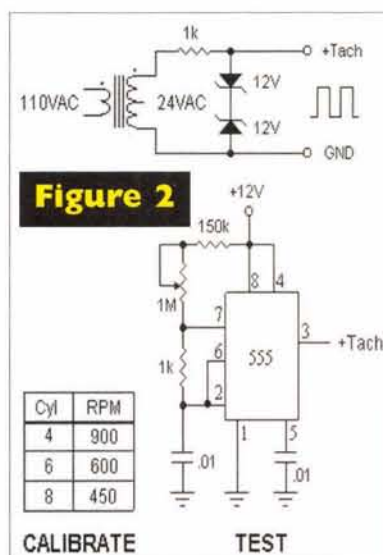

Figure 2
A. Actually, the calibration circuit is simpler than the one that moves the needle to full scale. Both are shown in Figure 2. The calibrator uses back-to-back zener diodes across a 24-volt transformer to produce a 12-volt squarewave, and uses the highly-accurate 60-Hz power line frequency for its clock reference. The actual RPM reading will depend on the number of engine cylinders. The more spark plugs you have, the more pulses you get per revolution, and the lower the meter will read. The attached chart in Figure 2 shows the relationship between the cylinder count and RPM.